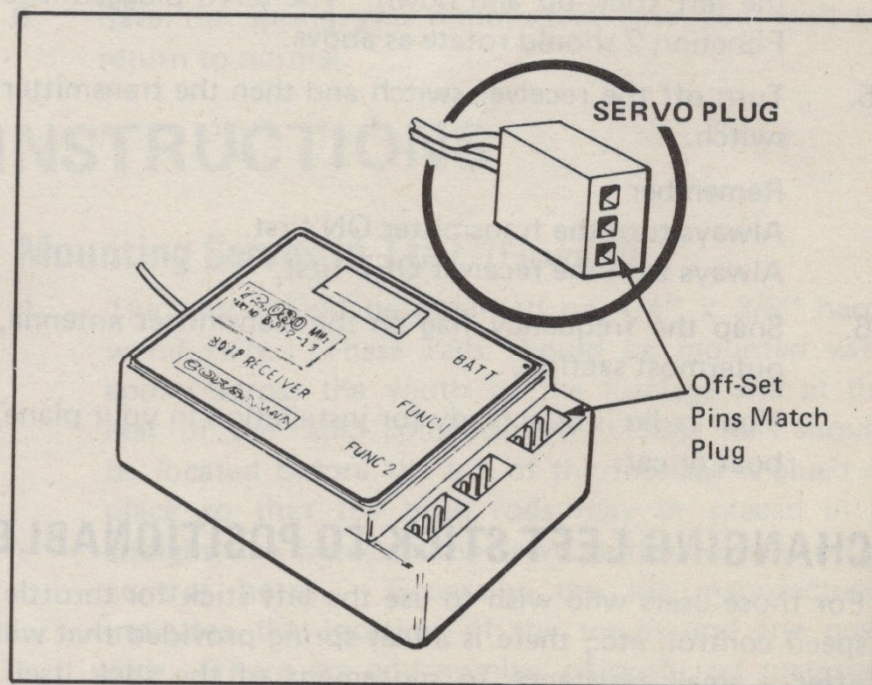

Figure 7.
1. Select the two servos and plug one of them into the receptacle marked Function 1 and the other into the receptacle marked Function 2. Note that the plugs and receptacles are polarized, i.e., the pins are off center. Be sure to line up the plug properly. **DO NOT FORCE THE PLUGS.** If they do not go in easily, you probably have them turned the wrong way. See Figure 7.